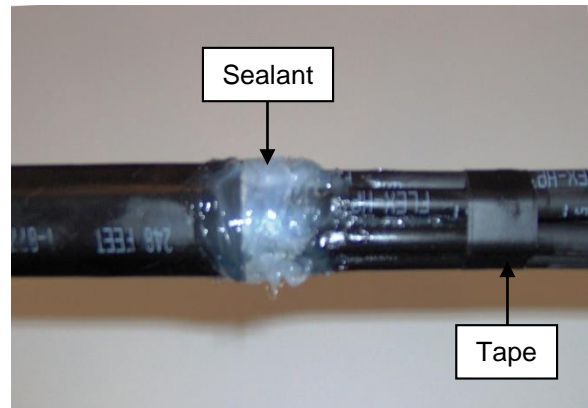

Figure 10
8.6 Apply additional sealant around the outer edge of the tubes and around the outer jacket to complete the sealing process. **See Fig. 10.**